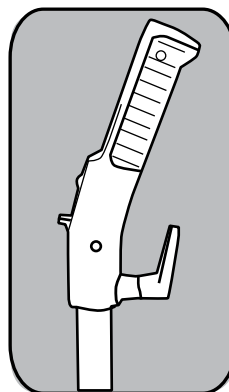

Fig. 1
1. After first removing the handle screw, insert handle into the hole on top of the vacuum cleaner. Make sure that the cord hooks on the handle are positioned to the back of the vacuum cleaner (Fig. 1).